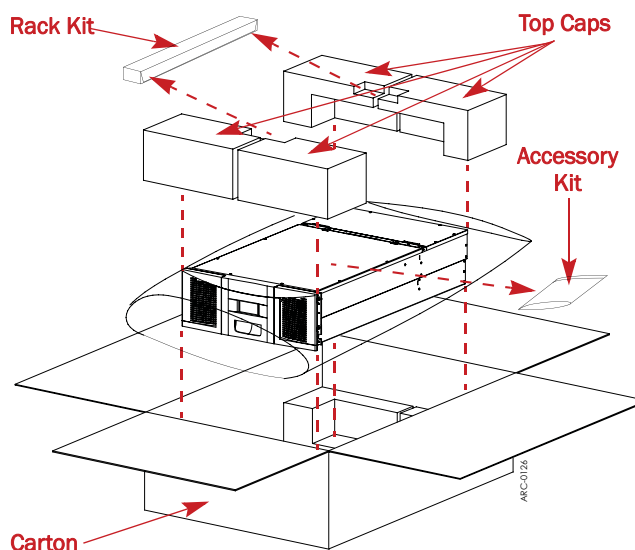

Figure 1. Unpacking an ARCvault 48
1. Open the top of the box (Figure 1) and remove both the **Rack Kit** box and **Accessory Kit** bag.